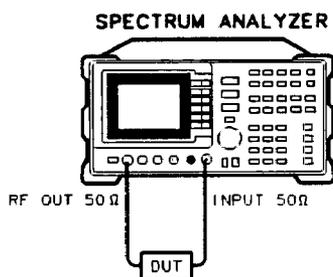

Figure 6-35. Transmission Measurement Test Setup
2. To measure the rejection of a low-pass filter, connect the equipment as shown in Figure 6-35. This example uses a filter with a cut-off frequency of 300 MHz as the DUT.